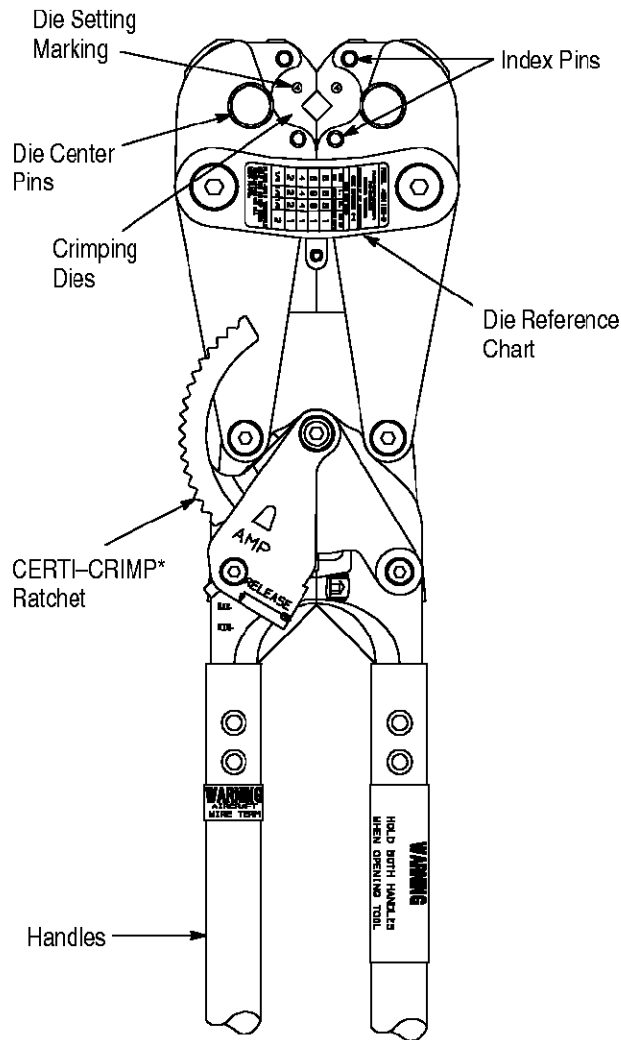

Figure 1
2. DESCRIPTION (Figure 1)
4. When the dies are in position, release the die center pins. Make sure that the four die index pins return fully and are visible above and below the dies as shown in Figure 1.